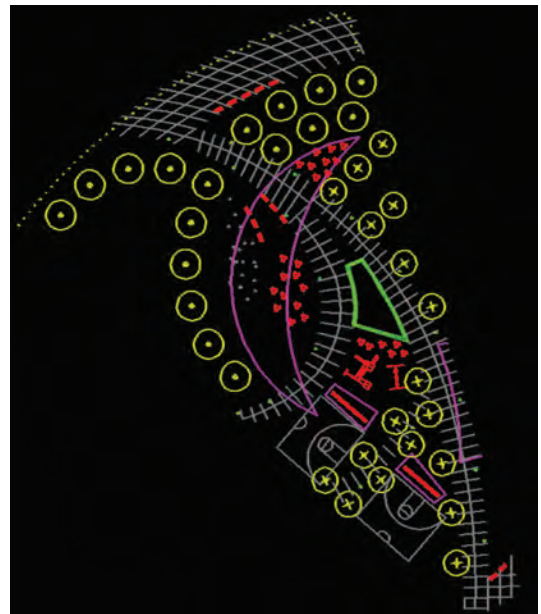

Fig. 16-6: AutoCAD blocks representing the site elements, furnishings, and vegetation. This is the second file imported into SketchUp.
- ▶ AutoCAD blocks that define individual objects, site elements, and vegetation (Fig. 16-6)
- ▶ The second file contains the AutoCAD blocks (Fig. 16-6).